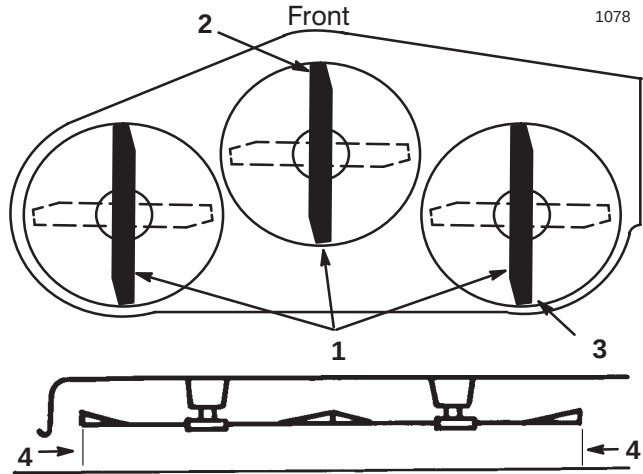

Figure 14
9. Check the front-to-rear slope by measuring between the bottom of the mower (front center and rear center) and the flat surface (Fig. 14).